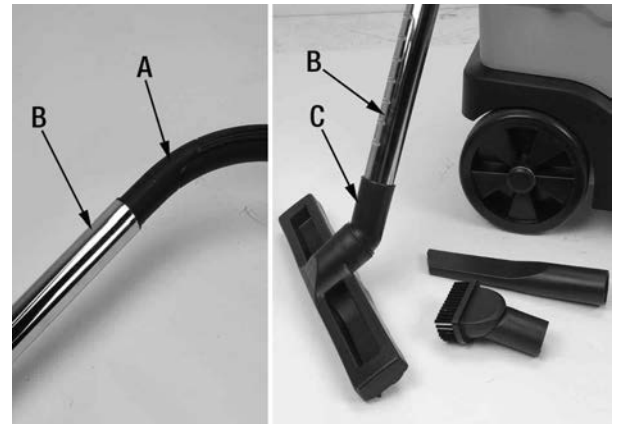

FIGURE 12
1. Slide the end of the hose (A) Fig.12 into the extension wand (B) as shown.
2. Attach either the floor sweep (C) Fig.12, crevice tool or brush tool to the other end of the extension wand (B).